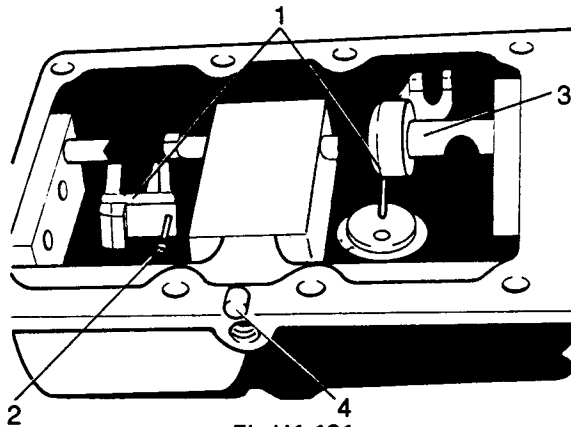

Fig H1.121
- (9) Refer to Fig H1.121. Remove the spring pins (1) that retain the selector shaft fork and that of reverse and also remove the locking roller (4).
- (10) Loosen off the screw which adjusts the hinge stop for reverse gear (2) so as to be able to slacken off the return spring.
- (11) Remove the reverse selector shaft (3) sliding it backwards and remove the forks.